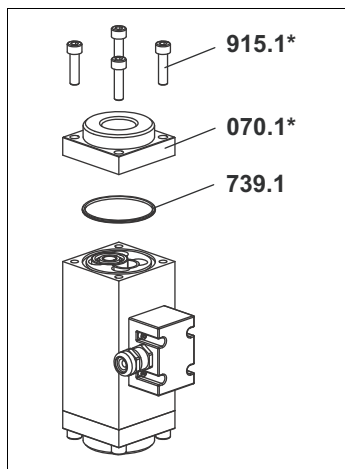

Fig. 1
1. Remove the socket screws **915.1\***, take off end cover **070.1\*** and o-ring **739.1**, see Fig. 1, page 26.